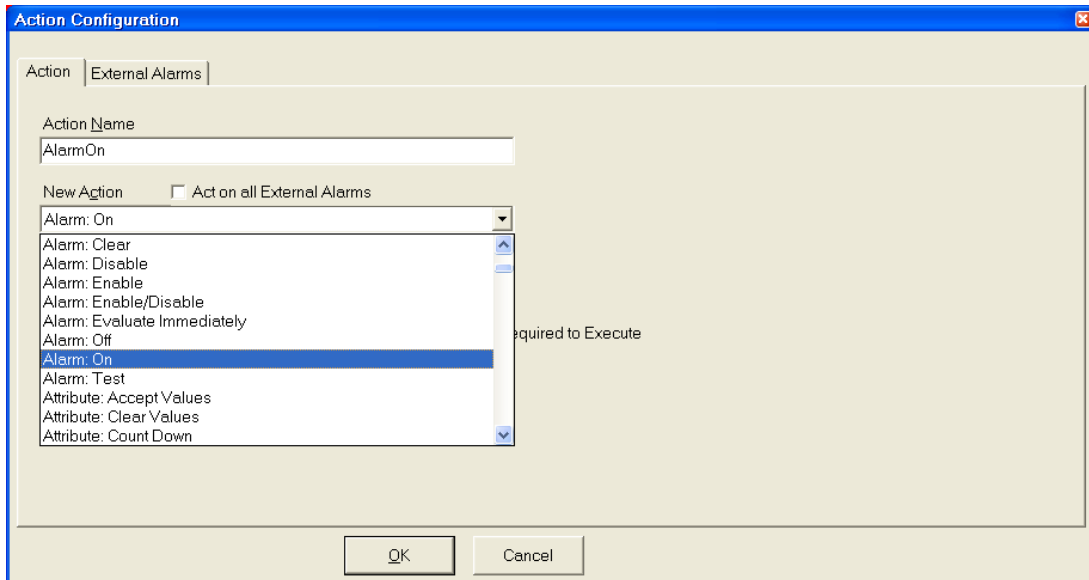

Figure 30. Action—Alarm: On.
- 2.1 For your action, choose Alarm On (see Figure 30).